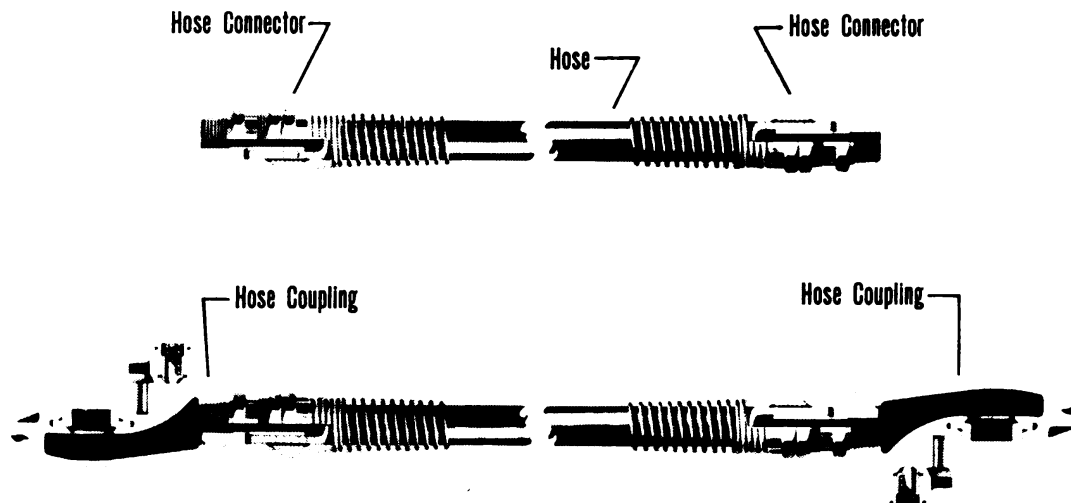

Figure 35—Cross Section of Typical Hose Assemblies
(1) Inspect the inside and outside surfaces for damage or corrosion. A small flashlight is helpful when inspecting the interior. If any damage or corrosion is found that would weaken the reservoir, the reservoir must be replaced.
9. Hose, Hose Assemblies and Hose Connectors. (See figures 35 and 36.)